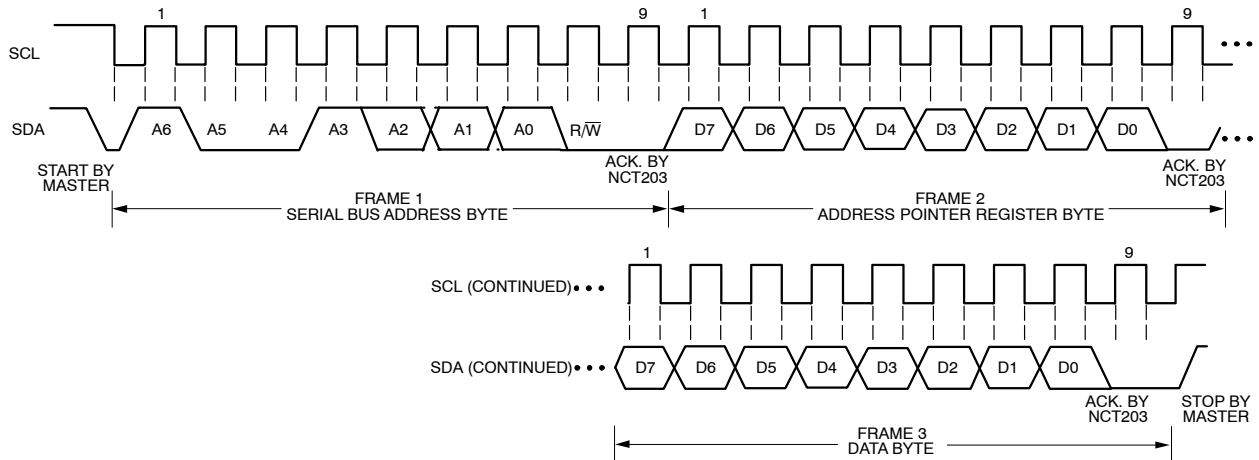

Figure 5. Writing a Register Address to the Address Pointer Register, then Writing a Single Byte of Data to a Register
- If the address pointer register is known to be at the desired address, data can be read from the corresponding data register without first writing to the address pointer register and the bus transaction shown in Figure 5 can be omitted.